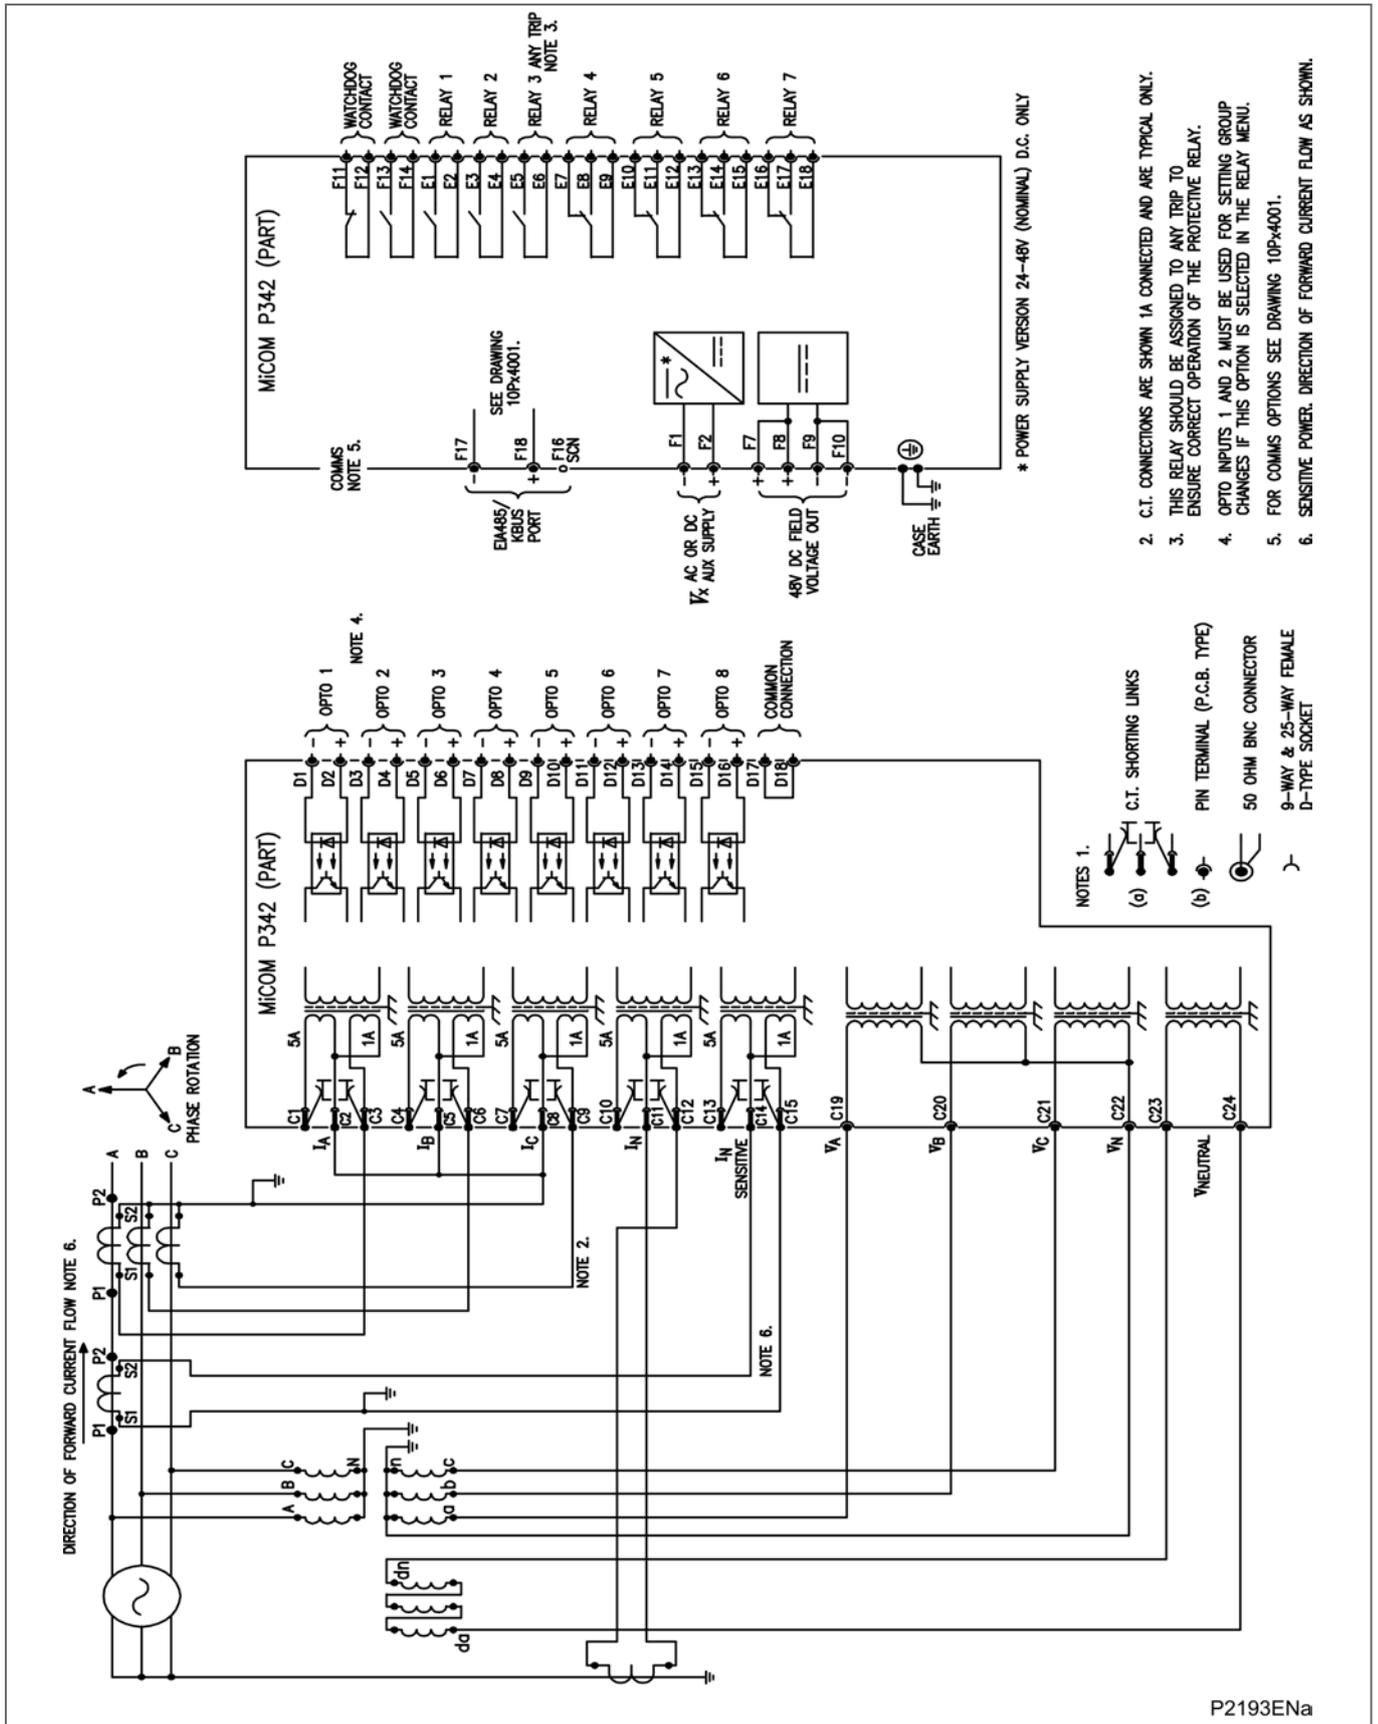

Figure 40 - P342 (40TE) for small generator with sensitive power (8 I/P & 7 O/P)
- Figure 40 - P342 (40TE) for small generator with sensitive power (8 I/P & 7 O/P)